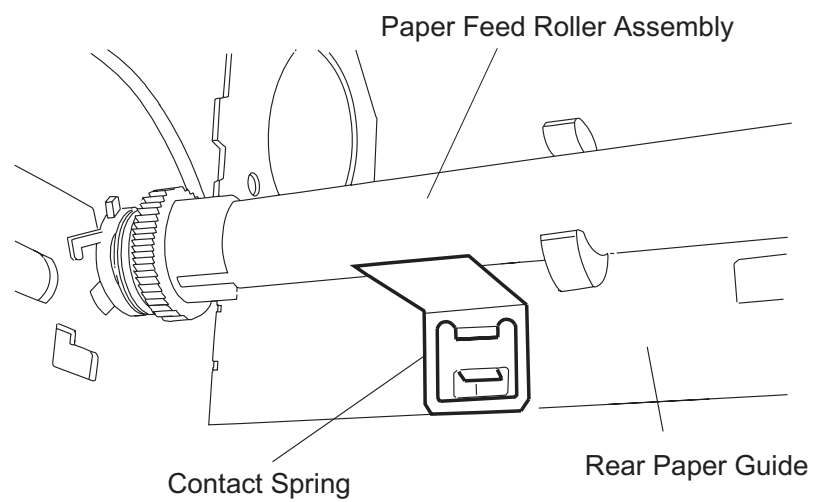

Figure 3-70. Contact Spring Location
- ❑ Make sure the contact spring on the left is correctly mounted onto the bottom frame, as shown in Figure 3-70.